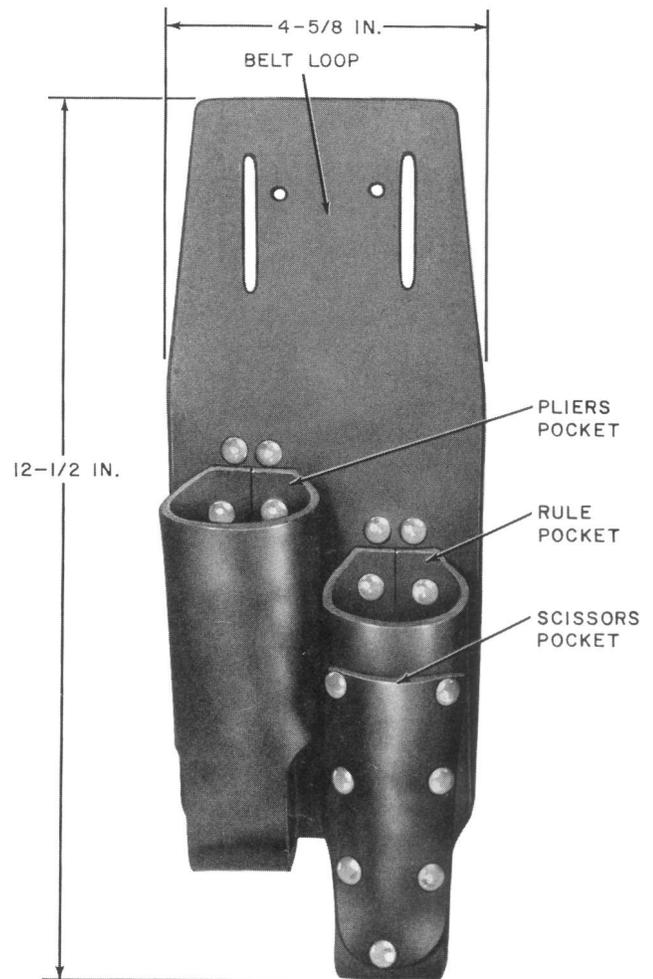

Fig. 1—D Holster (Right)
2.01 The D Holster shown in Fig. 1 is a *right* holster for use with *right* body belts. *Left* holsters for use with *left* body belts are also available. In each case the pliers pocket is located in the high position and to the rear of the rule pocket.